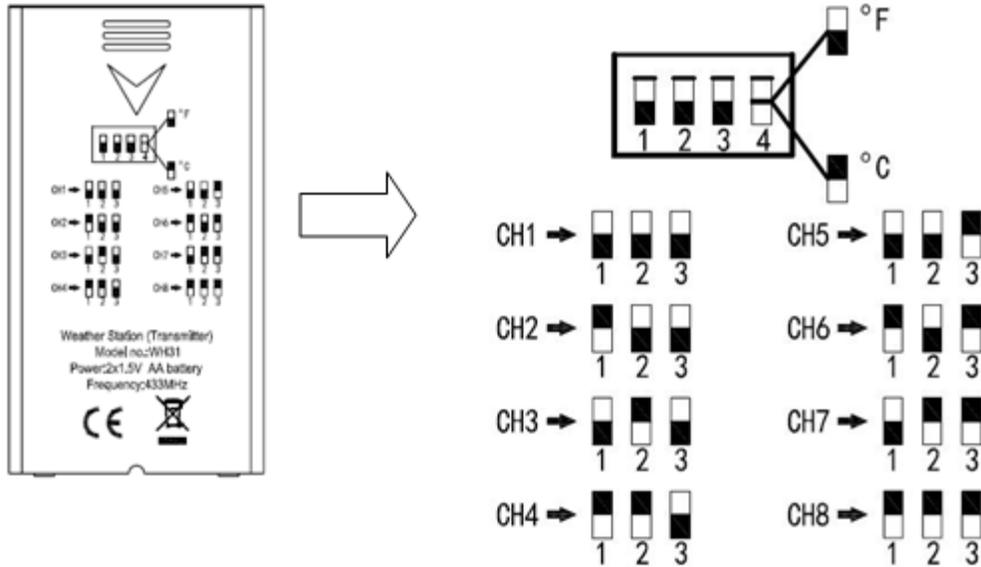

Figure 2
3. **Channel Number:** The HP3002 supports up to eight transmitters, and includes three transmitters. To set each channel number (the default is Channel 1), change Dip Switches 1, 2 and 3, as referenced in Figure 2.
4. **Temperature Units of Measure:** To change the transmitter display units of measure ( $^{\circ}\text{F}$  vs.  $^{\circ}\text{C}$ ), change Dip Switch 4, as referenced in Figure 2.